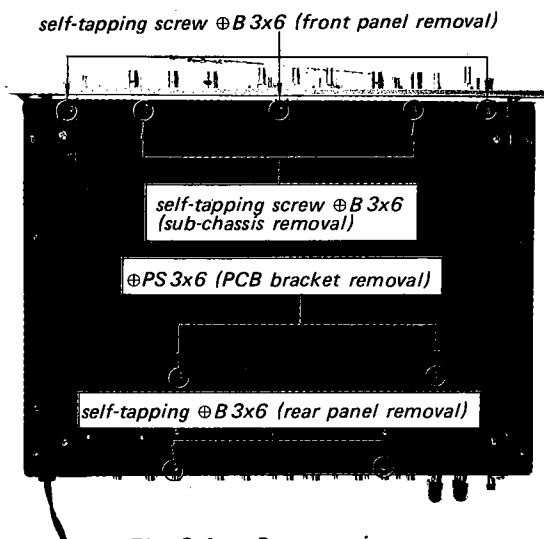
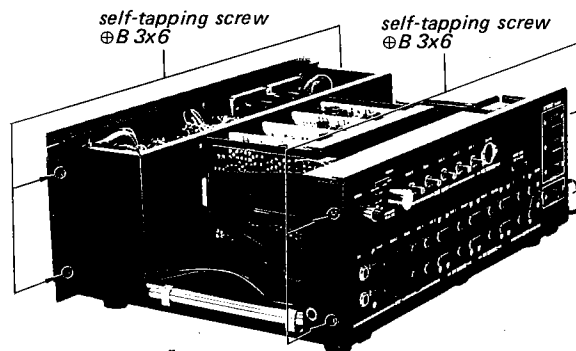

Fig. 2-4. Bottom view
Fig. 2-5. Front-subchassis and rear panel removal
5. Remove the three self-tapping screws ($\oplus$ B 3x6) at the front bottom of the chassis as shown in Fig. 2-4. This frees the front panel.
2. Remove the two self-tapping screws (⊕ B 3x6) at each side of the chassis (see Fig. 2-5) and two self-tapping screws (⊕ B 3x6) at the front bottom of the chassis as shown in Fig. 2-4. This frees front subchassis.
2. Remove the two screws ($\oplus$ PS 3 $\times$ 6) securing the PCB mounting bracket to the chassis from the bottom as shown in Fig. 2-4. This frees the bracket, and now the PCB's can be simply pulled out.
2. Remove the two self-tapping screws ($\oplus$ B 3 $\times$ 6) at each side of the rear panel as shown in Fig. 2-5.
3. Remove the two self-tapping screws ($\oplus$ B 3 $\times$ 6) at rear edge of the bottom as shown in Fig. 2-4. This frees the rear panel.